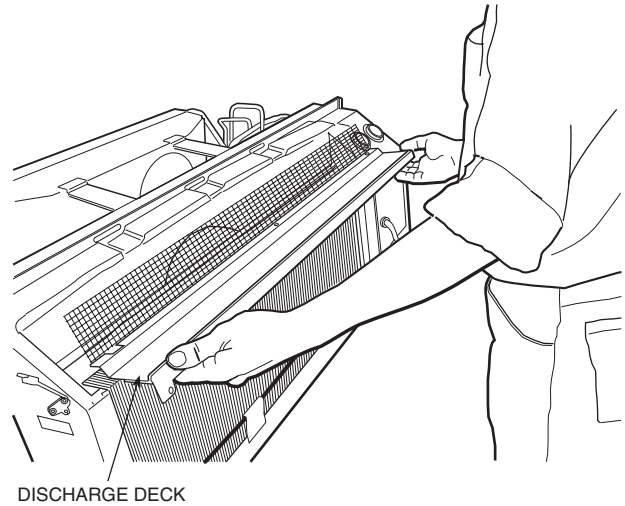

FIGURE 10 — ACCESSING HEATER PLATE ASSEMBLY
■ ACCESSING THE HEATER ASSEMBLY — Once the discharge deck assembly is removed, the Heater Assembly should now be accessible. See Figure 10.